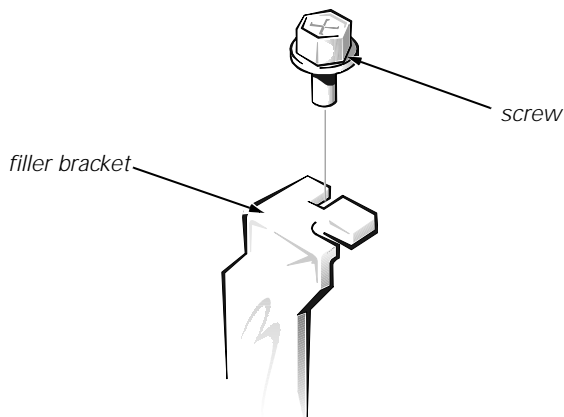

Figure 9-3. Removing the Filler Bracket
3. **Unscrew and remove the metal filler bracket that covers the card-slot opening for the expansion slot you intend to use (see Figure 9-3).**